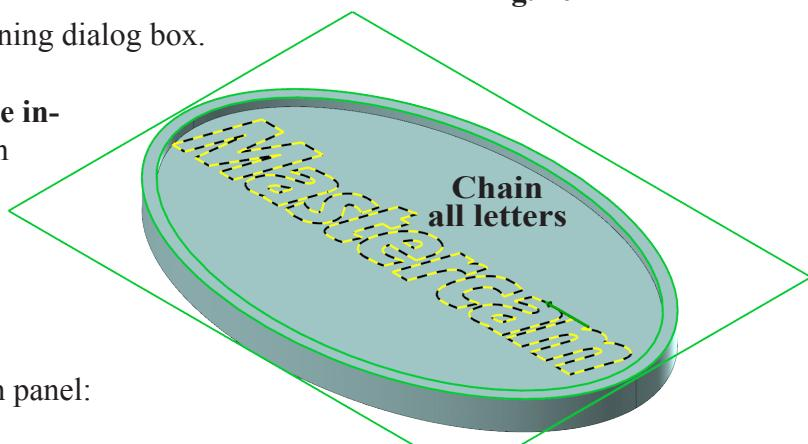

Fig. 21
Step 3. Click each letter and include inner geometry of a's and e in chaining, Fig. 21.